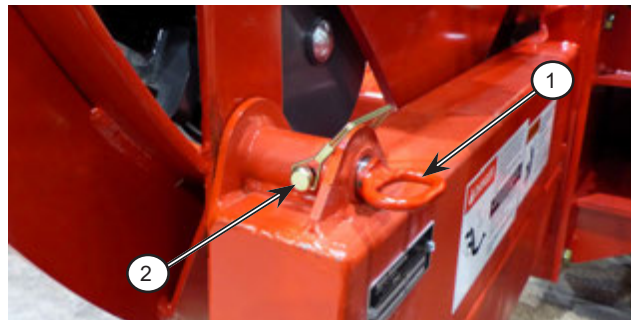

Figure 4.17: Remove the apron lock
- ii. Remove the  $\frac{5}{16}$ " locking pins (2) from the 1" apron pins (1) and frame, as per *Figure 4.17*.